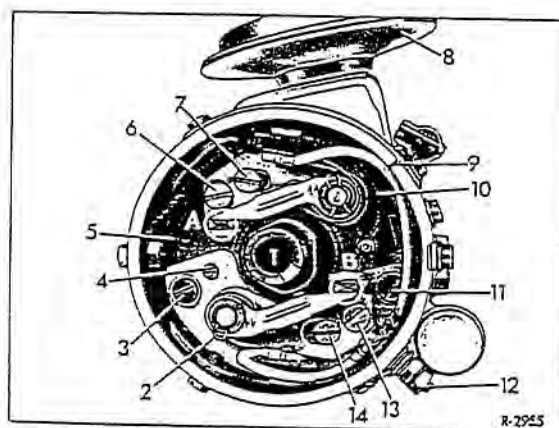

Fig. 00-6/1
1. Measure the timing angle at starter or idling speed. In the case of distributors with two pairs of contact breakers (300 SE Models), measure the timing angles separately at the two pairs of contact breakers (A and B) (Fig. 00-6/1). Proceed as follows: Put one pair of contacts out of action by inserting a small fiber sheet, set the timing angle tester to "6 cylinders" and check the timing angle at starter or idling speed.
2. Remove the pair or pairs (A and B) of contact breakers. Proceed as follows: Remove the wire locking rings from the pivot pins, unscrew the locking screws (6 and 13) and the cable terminal screw (12), pull the two pairs of contact breakers from the pivot pins and remove the cable (Fig. 00-6/1).
2. On distributors with two pairs of contact breakers (300 SE Models) check the angular distance of the two pairs of contact breakers (Fig. 00-6/1). Also check the ignition setting of cylinder no. 6. If there is a difference of more than 2° on the crankshaft between the ignition setting of cylinders 1 and 6 (see Job No. 00-0) the angular distance must be corrected as follows:
of contact breakers (A) by turning the eccentric bolt (4) (see Fig. 00-6/1).
It goes without saying that every readjustment of the distributor should be preceded by a general check for worn sliding pieces, excessive radial play of the distributor shaft (1), a loose base plate (5) etc. (Fig. 00-6/1). Any defects should be remedied right away.
Beginning of the automatic vacuum control can be corrected by screwing in or out the adjustment screw on the vacuum box (8) (Fig. 00-6/1).
Measure the total range of the automatic vacuum control of the distributor under no load (for values see Job. No. 00-0). The range can be increased by screwing out the stop nut on the pull rod connecting the diaphragm in the vacuum box (8) to the base plate (5); the range can be decreased by screwing the stop nut in (Fig. 00-6/1).